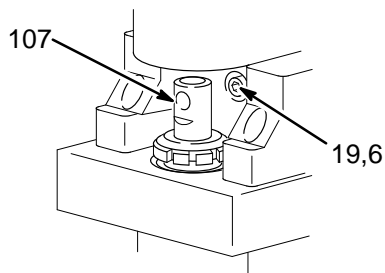

Fig. 28
2. Remove the pressure control (64). See page 30.
3. Turn the displacement pump rod (107) so the pin hole aligns with the bottom drive housing screw (19). See Fig. 28. Remove the three drive housing screws and lockwashers (19,6). Also see Fig. 29 on page 29.